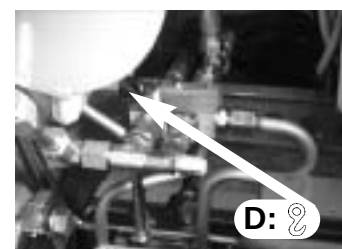

fig. 20a
- Lever **D** Deviator crane - outriggers ( - **E/S**). Fig. 20a-20b
- Unfold the crane into a working condition, positioning lever **D** of oil diverter crane-outriggers ( - **E/S**) on . Fig. 20a